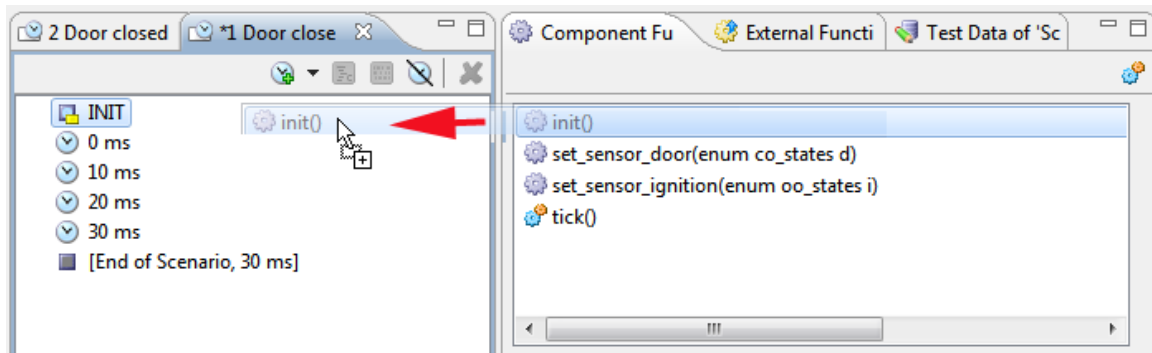

Figure 5.84: Dragging the function onto the scenario
- Drag the `init()` from the Component Function view to the Scenario view (see figure 5.84).